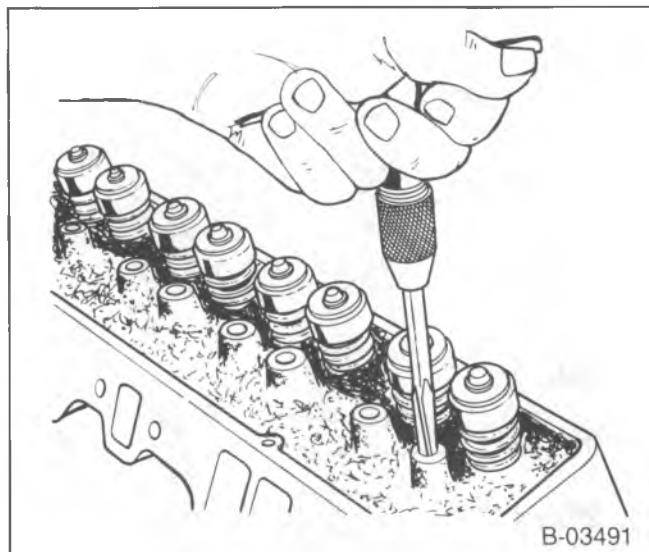

Figure 41—Reaming the Rocker Arm Stud Bore
2. Ream the hole to the proper size for the replacement oversize stud. Use J 5715 for 0.003-inch oversize studs; J 6036 for 0.013-inch oversize studs (figure 41).